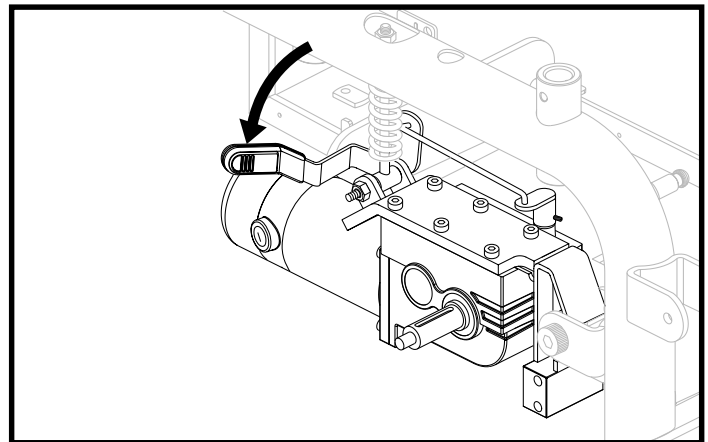

Figure 9. Drive Mode (Drive Engaged)
2. Push down the manual freewheel lever on each motor for drive mode (drive engaged). See figure 9.